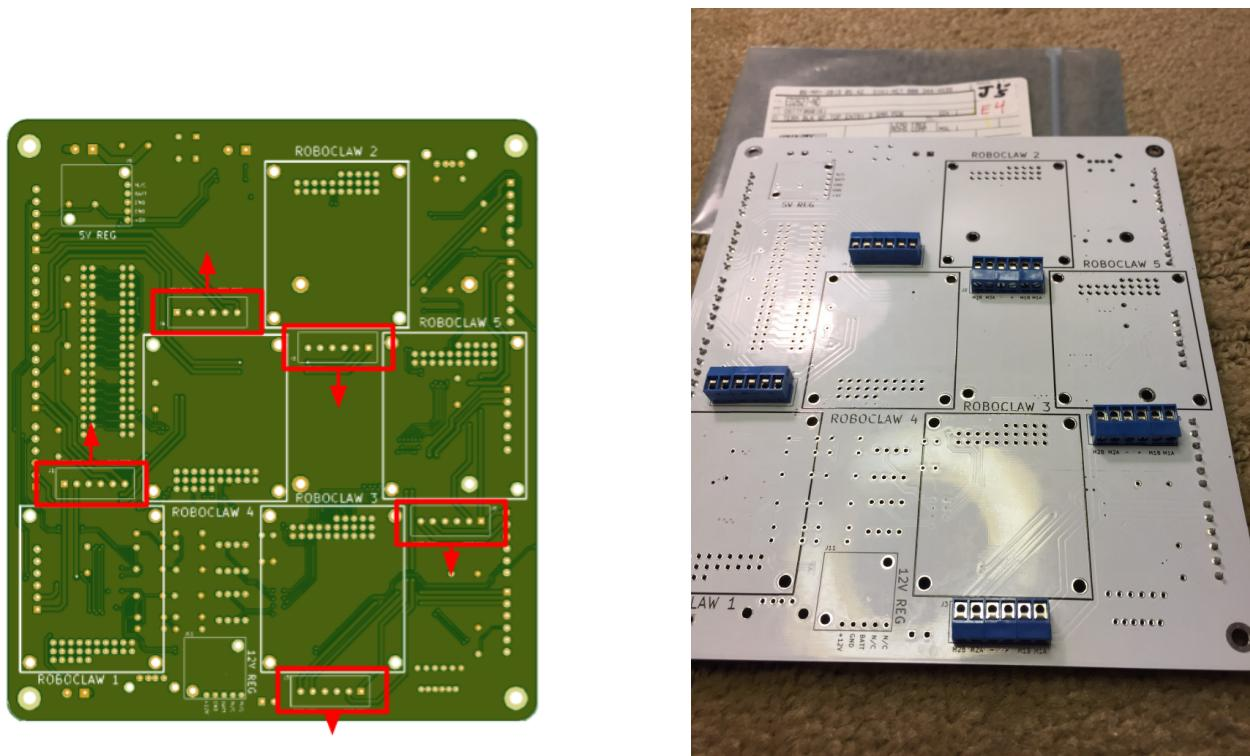

Figure 2: Assembly Step 2
2. On the **bottom** of the board, solder the 6 Position top entry terminal blocks **E4**. They will be labeled with schematic reference designators J1-5. The orientation of the wire terminal face should be AWAY from the each of RoboClaw outlines (see Figure 2). These terminals will run battery power and +/- motor signals to the RoboClaw motor controllers from the PCB.